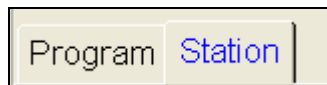

Figure 16.2.1C
1. In the **“Controller Schedule”** screen click on the **Station** tab (Figure 16.2.1C).